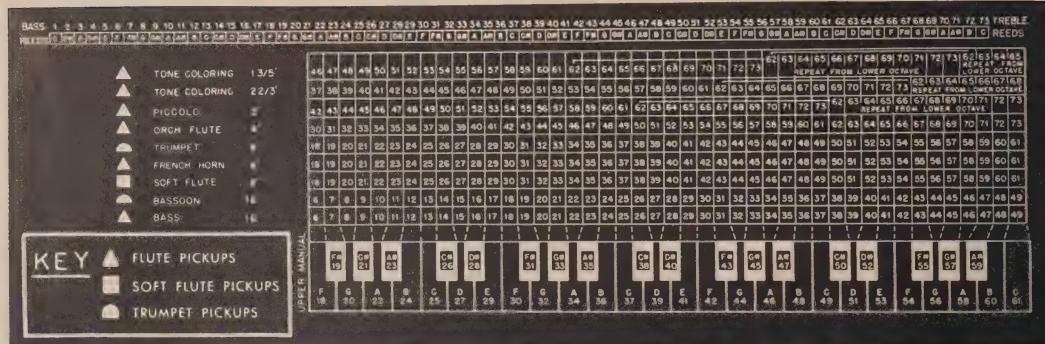

Fig. 1—Upper manual of the Wurlitzer organ. Key indicates type of pickup.
THE available variety of tone colors for both manuals of the Wurlitzer organ is obtained by mixing stops, since actually there are only two varieties of color, flute and trumpet. This scheme could be diagrammed only on a page at least several times the size of this, so only the upper manual is shown (Fig. 1.).
Let us see what happens when we play the upper manual with the SOFT FLUTE 8' stop pulled. Start by pressing middle C (key 25) and find it on the manual in Fig. 1. Note that a horizontal column of figures extends to the right from the SOFT FLUTE 8' marking on the chart. Follow the line of boxes upward from key 25 until it intersects the SOFT FLUTE 8' line; you will find a box with the number 25. This indicates that when C25 is pressed with the SOFT FLUTE 8' stop pulled, a pickup on reed No. 25 is energized.
Thus, from Fig. 1 we know that under these circumstances we will get only a soft flute tone from the organ, at the pitch of middle C.